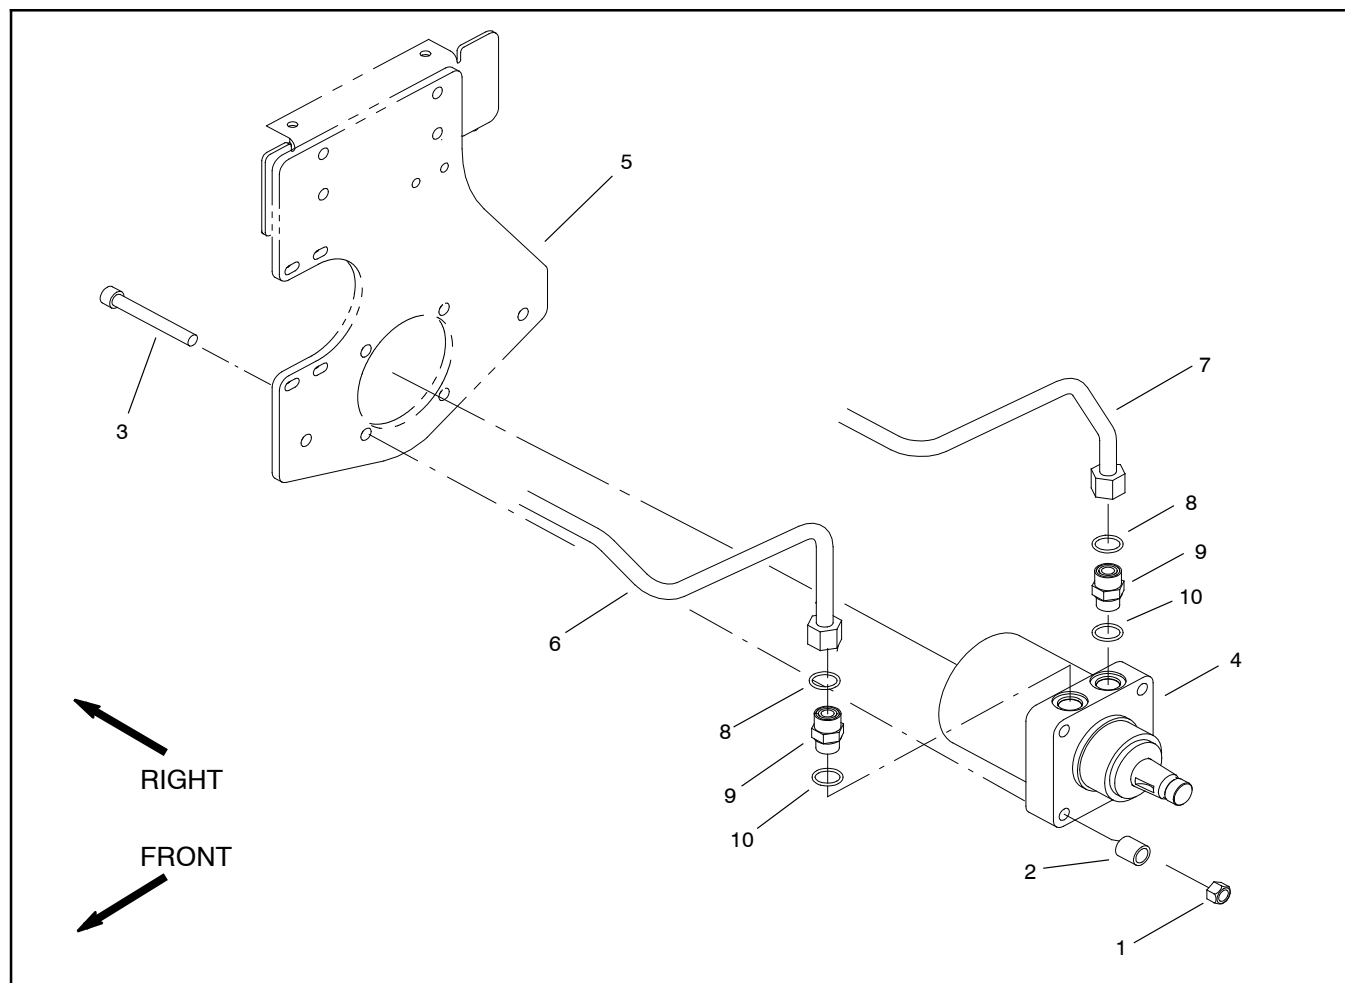

Figure 81
4. Remove wheel motor from frame using Figure 81 as guide.
1. Install wheel motor to frame using Figure 81 as guide.